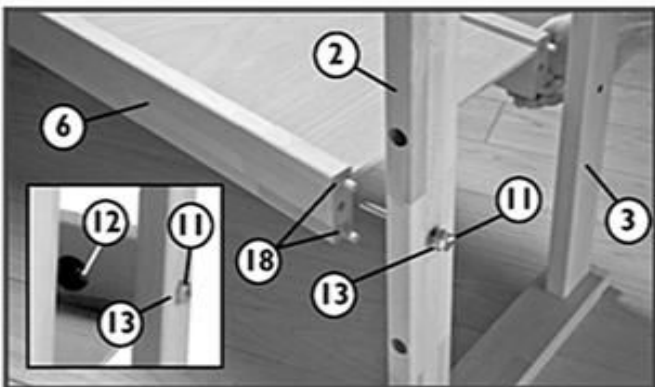

Fig. 3
- Use two Dowels (18), an M-12 x 100 Hex Bolt (11), a Washer (13) and an M-12 Nut (12) to attach each Middle Stretcher (6) to the leg assembly (**Fig. 3**). The Middle Stretcher assembly can be mounted with the Center Shelf (7) on the top (as in **Fig. 3**) or bottom (as in **Fig. 3** inset photo). Make sure the bench dog holes in the legs are all facing forward. Repeat this process for the other leg assembly.